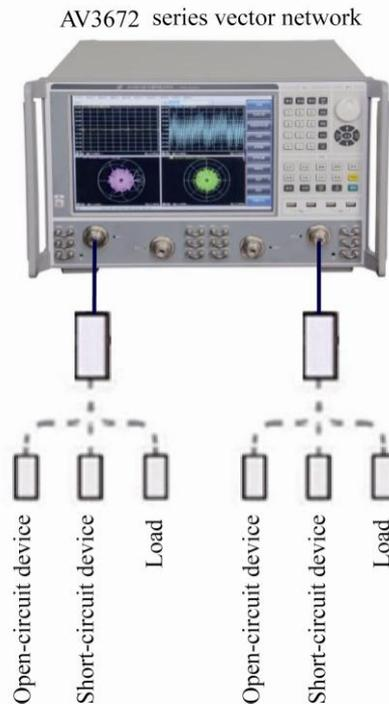

Fig. 11.12 Block Diagram I of Connection of Full Double-port Calibration
1) As shown in Fig. 11.12, connect the system and preheat is for 60min at least.